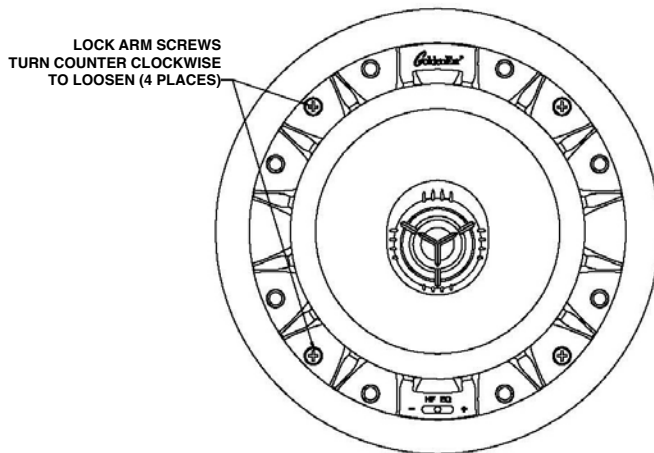

Figure 4
8. Loosen the four rotating lock arms on the speaker by turning the arm screws on the front of the speaker counterclockwise  $\frac{1}{2}$  to 1 turn, just enough to allow the lock arm to move freely (Figure 4).